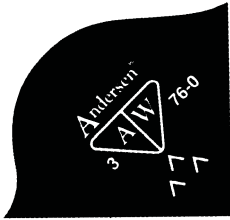

Fig 4. High altitude glass.
*1974 to Present* High altitude designation was changed to a "^^" located under the logo (figure 4).